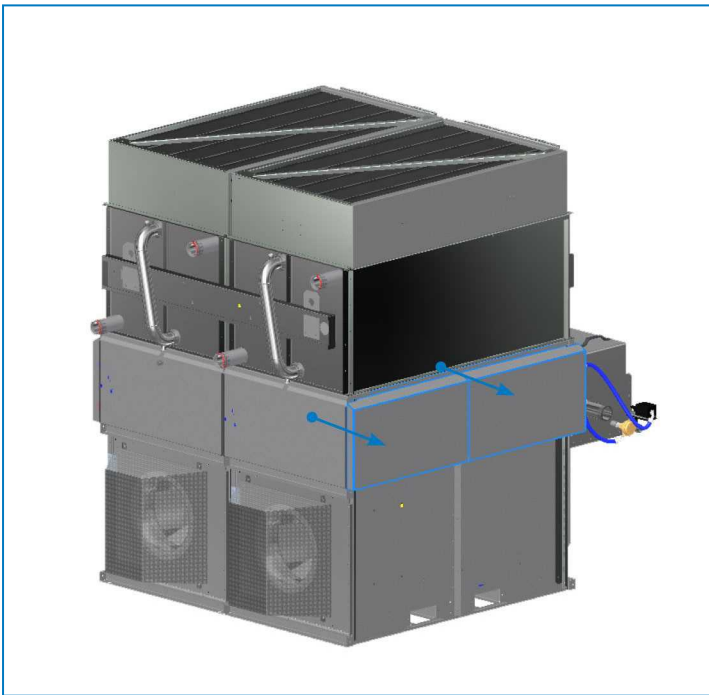

Fig. 12 Location of component wiring
2. Remove the side cover panel located on the opposite side of the control panel. Find the component wire (drain valve, conductivity sensor or make-up valve) stored under the cover panel. See figure 12.
2. Find the conductivity sensor and the drain valve component wires on the side of unit opposite from the control panel. Pull the wire around the corner to the back (opposite the basin side) and secure to the mounts with zip ties (provided by BAC). Pull the wire through the first notch from the top and secure the wire to the hole with zip ties. See figure 12 and 15.